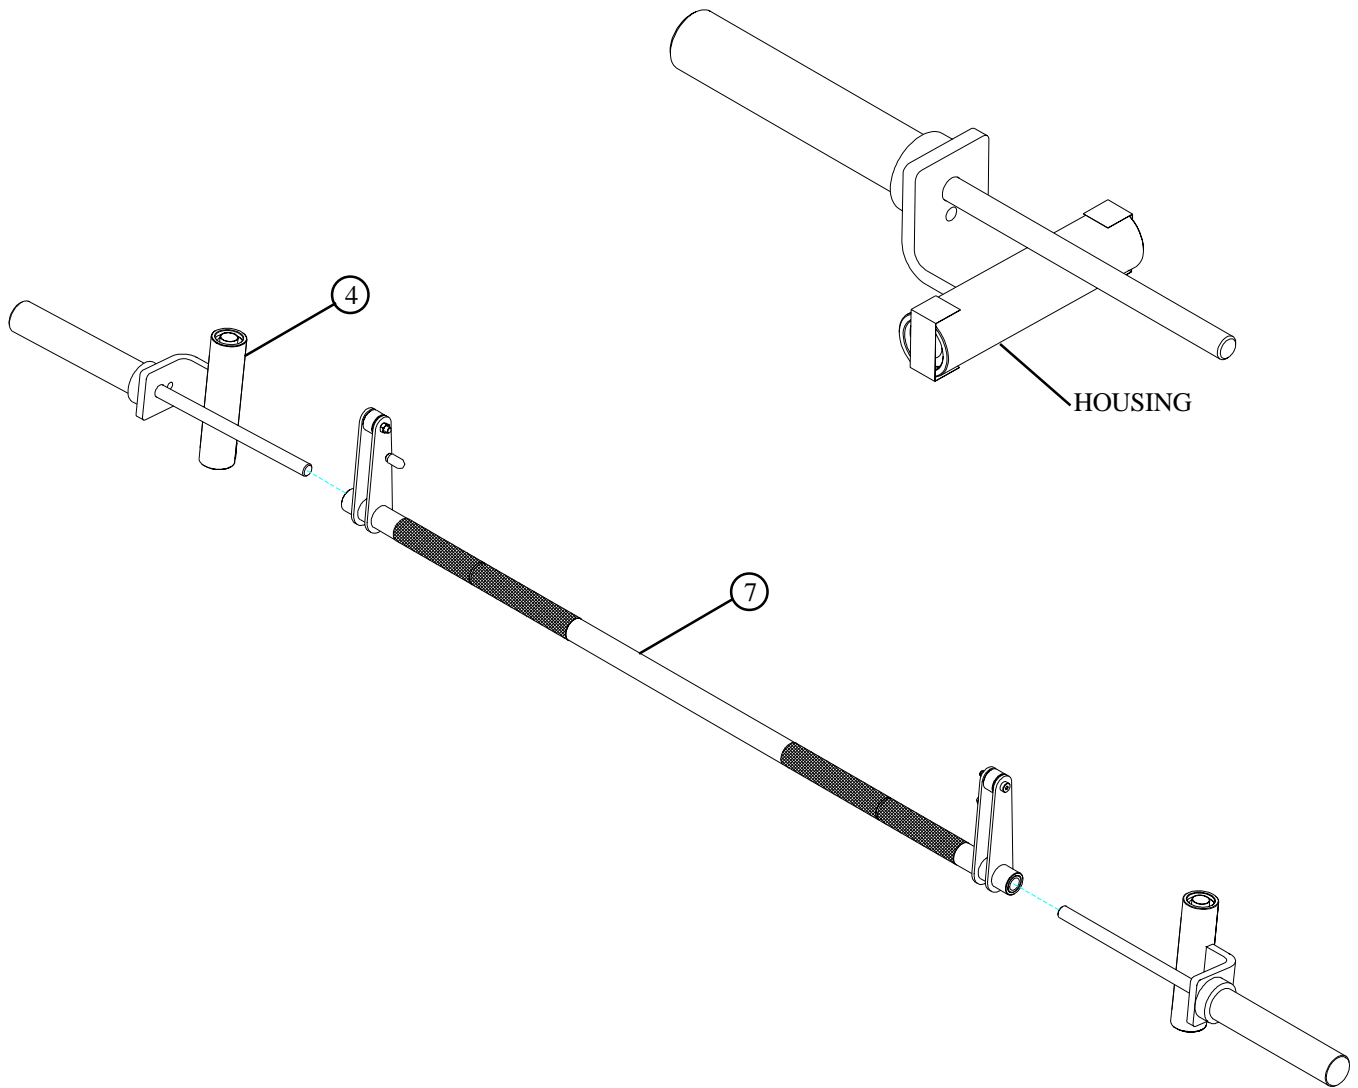

FIGURE 3
- Insert the shaft of the HOUSINGS (4) into the ends of the SMITH BAR (7) as shown in FIGURE 3.